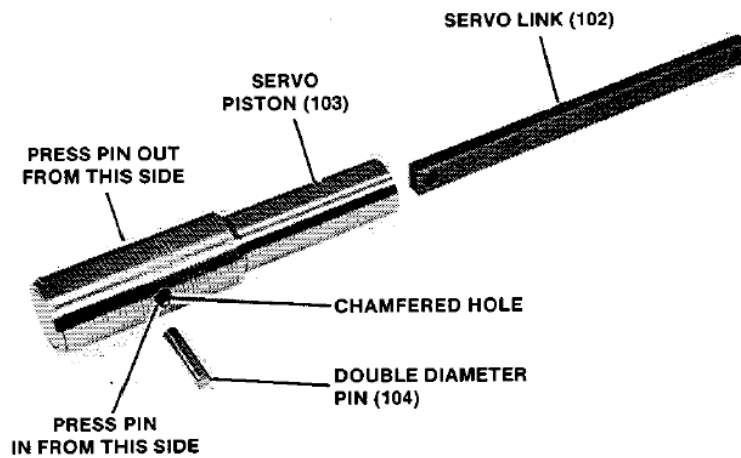

Figure 5-10. Servo and Link Disassembly
12. Turn the governor upside down. Remove four screws (75) from pump housing (82).
13. Remove pump housing (82) from base (95). Use two screwdrivers to gently lift the pump housing until it is free from the base.
14. Disassemble the pump assembly. Remove pump gears (79) from drive shaft (86). Remove retaining ring (90) from pump housing. Remove drive shaft (86) and bearing (88). Remove retaining rings (87 and 89) from the drive shaft.
15. Remove seven base screws (75), base (95) and base to case gasket (96).
16. Remove buffer springs (97) and buffer piston (101).
17. Remove spring (98) and limit/shutdown pilot valve (100).
18. Remove servo piston (103) and link (102). To remove the link from the servo piston, press double diameter pin (104) from opposite side of the chamfered hole (Figure 5-10).